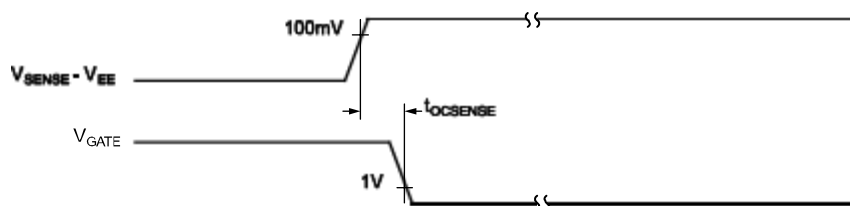

Figure 2. SENSE to GATE Timing Response
| t OCSENSE | Overcurrent Sense to GATE Low Trip Time (8)Figure 2         | V SENSE – V EE = 100mV                       |     |     | 3.5 | μs    |